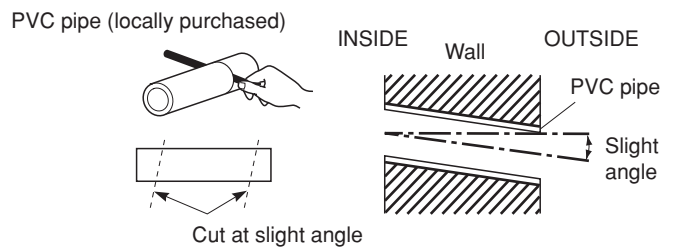

Fig. 3-77
- (9) Measure the thickness of the wall from the inside to the outside and cut PVC pipe at a slight angle to fit. Insert the PVC pipe in the wall. (Fig. 3-77)